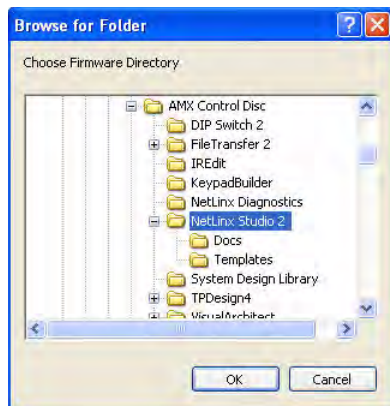

FIG. 94 Browse for Folder window
8. Select the appropriate Kit file from within the Browse for Folder window (FIG. 94).